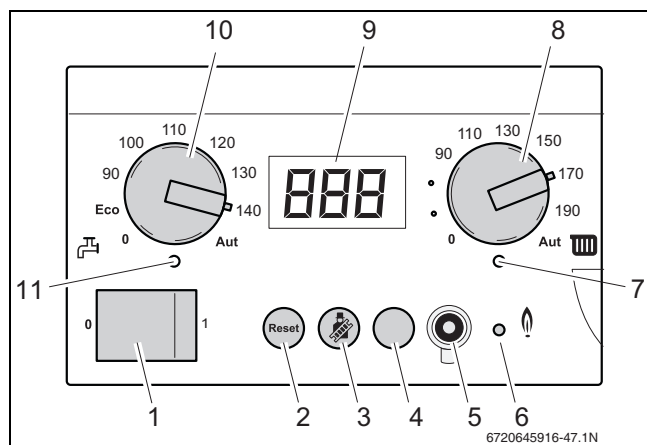

Fig. 70 BC10 basic controller
- ▶ Press and hold the  button (→ fig. 70, [3]) (approx. 2 seconds), until the dot in the right-hand bottom corner of the display (→ fig. 70, [9]) appears (→ table 12, page 31).
- ▶ After the "LED Burner operation" (→ fig. 70, [6]) has lit wait for 1 minute until the boiler is burning at full load.
- ▶ Press the "Chimney sweep"  button (→ fig. 70, [3]) to clear the reading (→ table 12, page 31).
- ▶ Switch OFF the heating system by pressing the main switch of the BC10 basic controller (→ fig. 70, [1]).
- ▶ Remove the flue gas analyzer and fit the cover back onto the flue gas measuring point (→ fig. 70, [1]).
- ▶ Switch ON the heating system by pressing the main switch of the BC10 basic controller (→ fig. 70, [1]).
- ▶ Switch OFF the appliance by pressing the main switch of the BC10 basic controller (→ fig. 70, [1]).
- ▶ Switch ON the appliance by pressing the main switch of the BC10 basic controller (→ fig. 70, [1]).
- ▶ After the LED Burner "operation" (→ fig. 70, [6]) has lit wait for 1 minute until the boiler is burning at part load.
- ▶ Press and hold the "Chimney sweep" button (→ fig. 70, [3]) (approx. 2 seconds), until the dot in the right-hand bottom corner of the display (→ fig. 70, [9]) appears (→ table 12, page 31).